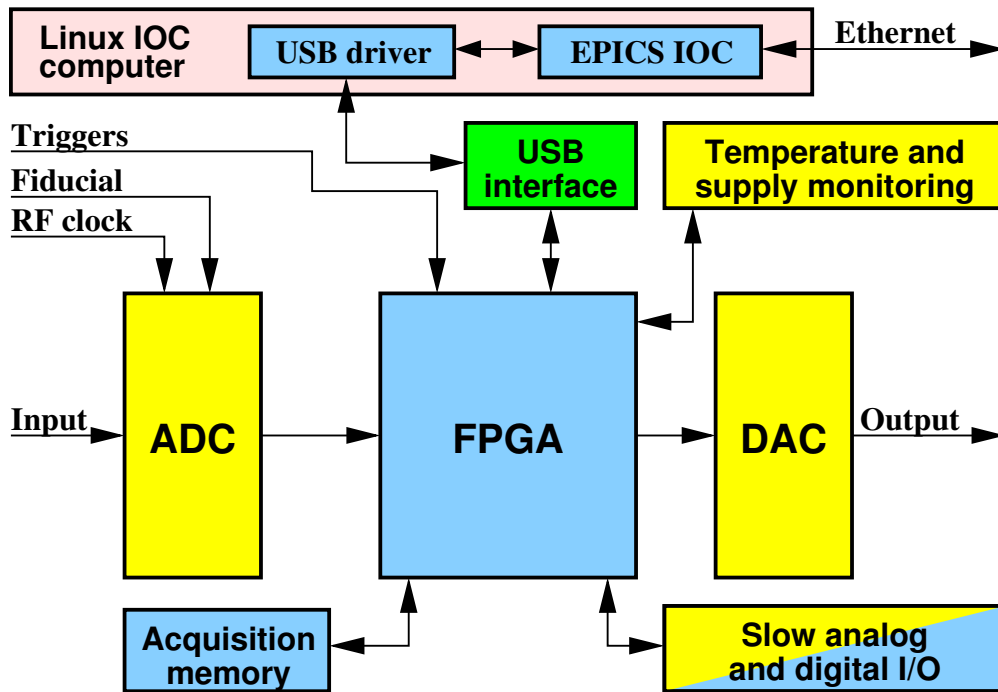

Figure 1: iGp12-80F block diagram
A block diagram of the iGp12-80F system is shown in Figure 1. The main signal processing chain consists of a high-speed 12-bit analog-to-digital converter (ADC), a field programmable gate array (FPGA), and a high-speed 12-bit DAC, all driven by the radio frequency (RF) clock. In addition to performing real-time control computations, the FPGA interfaces to a number of on-board devices, such as high-speed data acquisition memory (static random access memory (SRAM)), low-speed analog and digital input/output (I/O), as well as temperature and supply voltage monitors. In turn, the FPGA uses an internal universal serial bus (USB) connection to communicate to an embedded input-output controller (IOC) computer housed in the same chassis. The IOC runs the Linux operating system and is connected to the overall control system via the Ethernet.